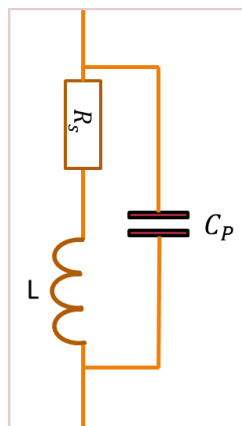
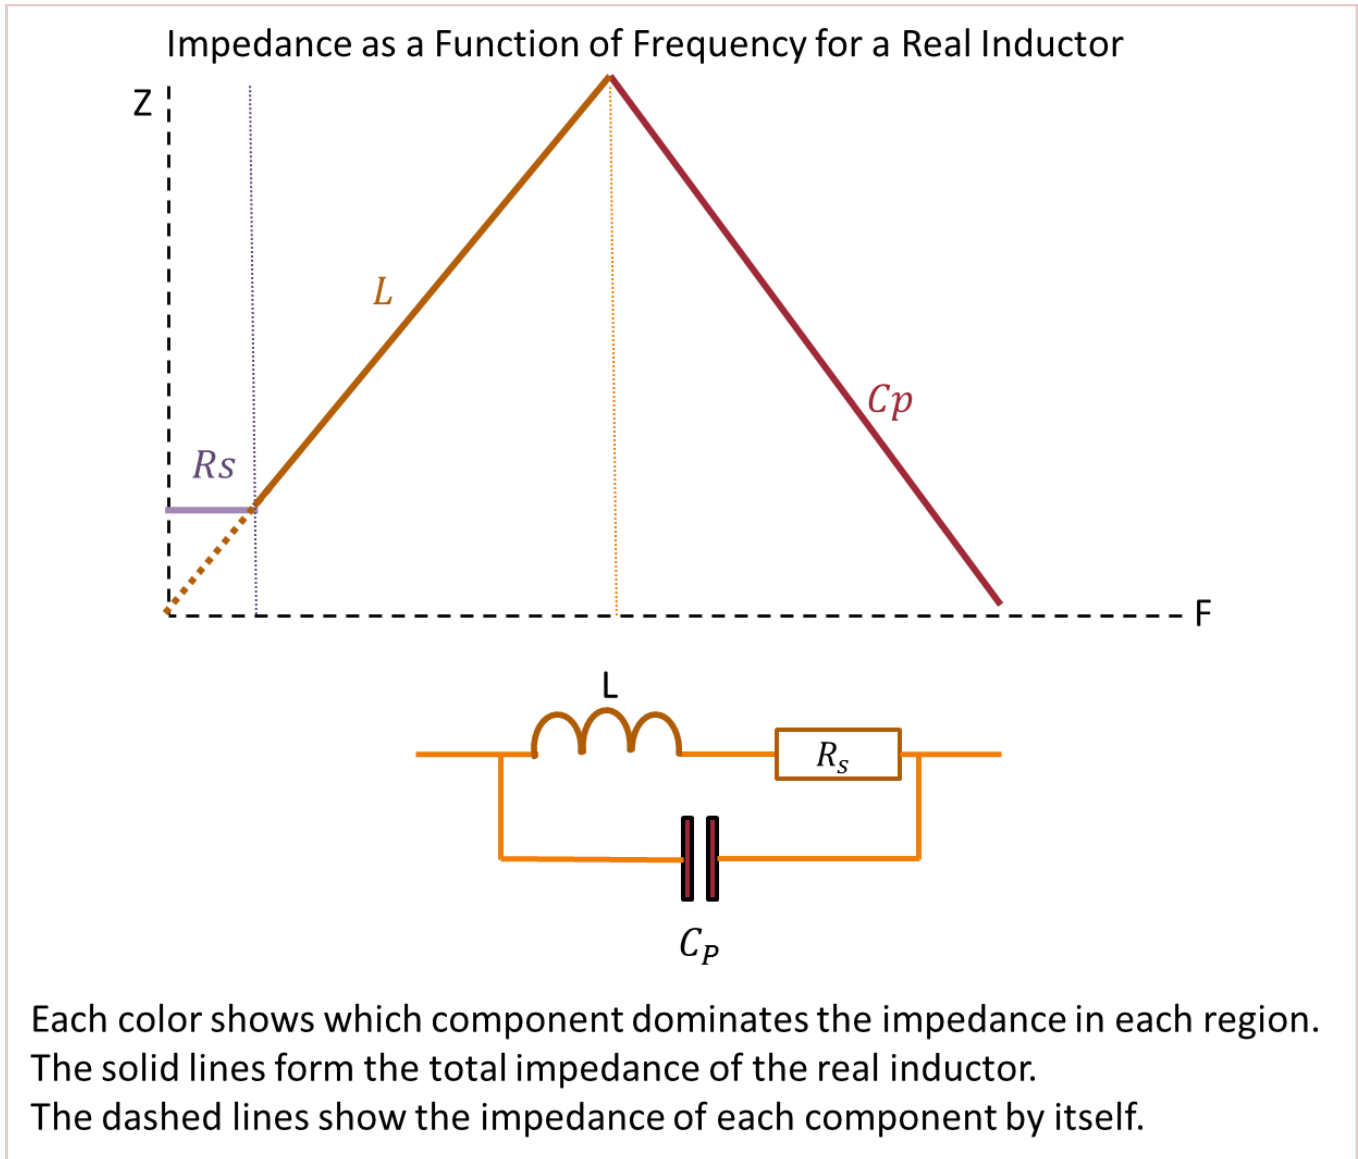

Figure 3. Model of a real inductor.
Figure 5. Impedance of a real inductor as a function of frequency.
The equivalent model of a real inductor with associated parasitics is shown in Fig. 3. Since inductors are generally wound from wire, the series resistance can be quite large, especially if hundreds of turns are needed. There is also a parasitic parallel capacitance due to turns of wire being next to each other. The resulting parallel LC network can be characterized by its self-resonant frequency which is often given in datasheets. This lets engineers decide at a glance whether an inductor is appropriate for their application. The rule of thumb is to use an inductor with a self-resonant frequency that is 10 times higher than the operating frequency range. For example, if an inductor was to be used in a switching power supply with a 100 KHz operating frequency it should have a self-resonant frequency greater than 1 MHz. A graph of impedance as a function of frequency for a real inductor is shown in Fig. 5.
4. Increase the frequency and the output voltage should rise. Select two points as you increase the frequency and use that to calculate the inductance. This corresponds to the rising portion of the impedance vs. frequency graph shown in Fig. 5. You can neglect the parasitics to make the calculation easier. **(Photos and Hand Calc)**
5. Eventually, the reactance of the inductor will rise to the point that the output voltage will reach 2V p-p. Continue increasing the frequency until the output voltage begins to fall. This point is close to the resonant frequency shown in Fig. 5. Select two points on the falling slope and use that to calculate the parallel capacitance. You may have to go as far out to 20 MHz as shown in Fig. 15 to get a good data point. If these points are beyond the frequency range of the function generator in the lab, simply note this and you don't have to do the calculation. **(Photos and Hand Calcs)**